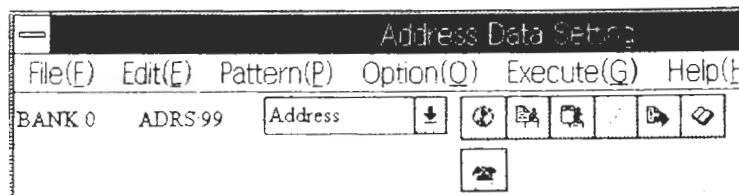
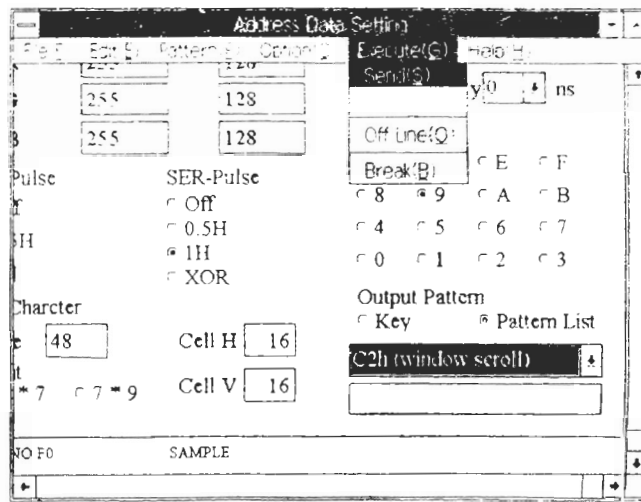

Figure 6-1
Figure 6-2
In previous versions, the VGA screen (640 x 400 dots) used for note book computers was somewhat inconvenient since the entire Timing folder could not be displayed on the Windows screen. For instance, when frequently sending address data (pattern numbers) to the model 1610/1611, you had to repeatedly use the scroll bar to display the "SEND TO 1610" icon (see Figure 6-1) and revise the pattern code. In other words, frequent scrolling was required. The new version lets you execute the same operation by simply selecting Send (S) from the pull-down menu Execute (G). This eliminates the tedious scrolling. See Figure 6-2.